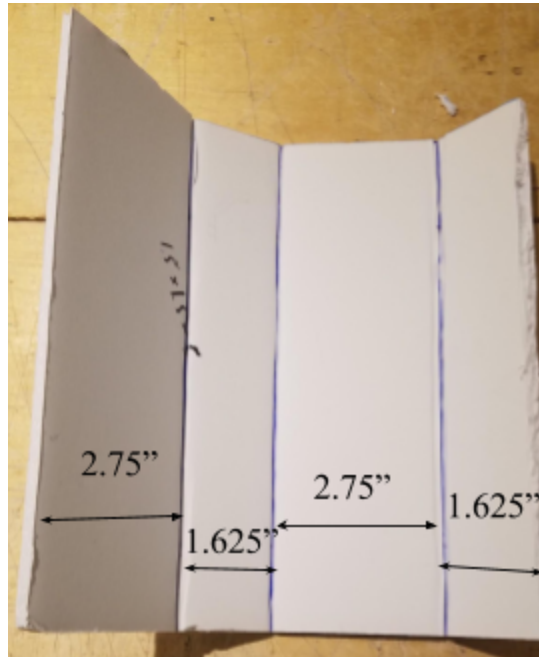

Figure 3: Foam core base reference with segment lengths
1. Cut a 8.25" x 8.75" piece of foam core and make half cuts at the locations shown in Fig.3.